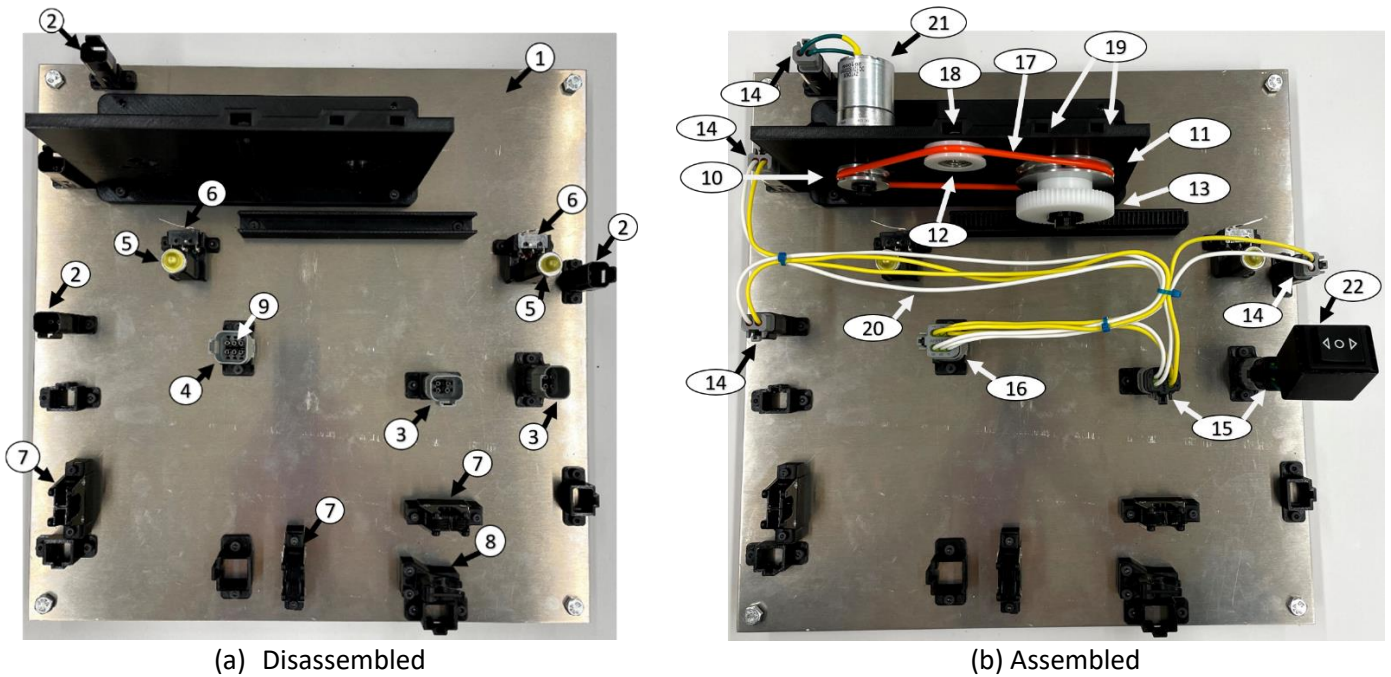

Figure 1. Identification of key components as labeled in the subsequent parts list and their locations on the task board.
This document conveys fabrication instructions for assembling the practice task board for the Manufacturing Track of the IROS 2021 Grasping and Manipulation Competition. All major components are identified figures 1 and 2 below.
- 1) Place the “elastic retainers” on top of the printed “Elastic retainer stool” and align them with the M3 tapped holes on the task board base according to Fig. 1. Use long M3 bolts to secure the retainer and stool to the board.
- 2) Place the “Corner post high” on top of the printed “cornerpost Stool” and align it with the M4 tapped holes on the task board base according to Fig. 1. Use long M4 bolts to secure the retainer and stool to the board.
- 4) Place each of the remaining printed parts in their locations according to Fig 1. Mounting plate, linear rack, and each of the connector housings. Use M4 bolts to secure to the board. Be sure to check the orientation of each part as they can easily be rotated 180 degrees on accident.